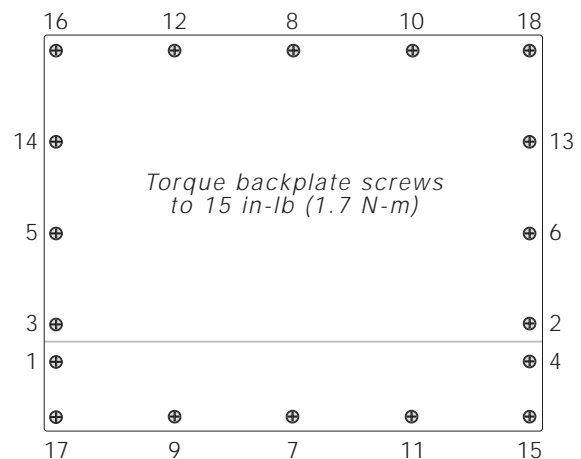

Figure 2-3. *920i* Enclosure Backplate
9. For indicator models that include a backplate, position the backplate over the enclosure and reinstall the backplate screws. For the *920i* desktop and universal models, use the torque pattern shown in Figure 2-3 to prevent distorting the backplate gasket. Torque screws to 15 in-lb (1.7 N-m).